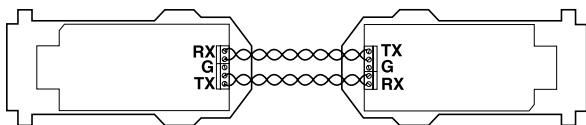

Figure 3. Installation Diagram.
4. Connect the twisted-pair cable to the transmit and receive screw-terminals. See Figure 3.
6. Repeat steps 1 to 4 for the remote Mini Driver 4W-S. Make sure the local transmit terminals are connected to the remote receive terminals and that the local receive terminals are connected to the remote transmit terminals (see **Figure 3**).